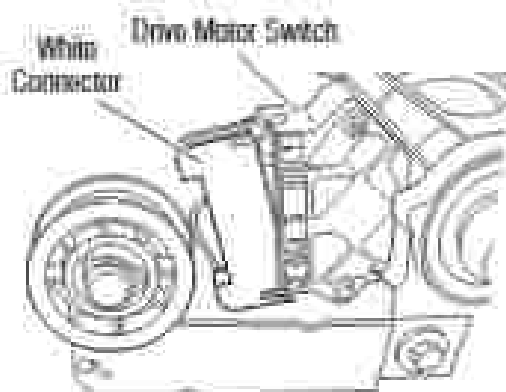

Figure 2 - Remove white connector
- E. Remove the white connector from the drive motor switch. See figure 2.